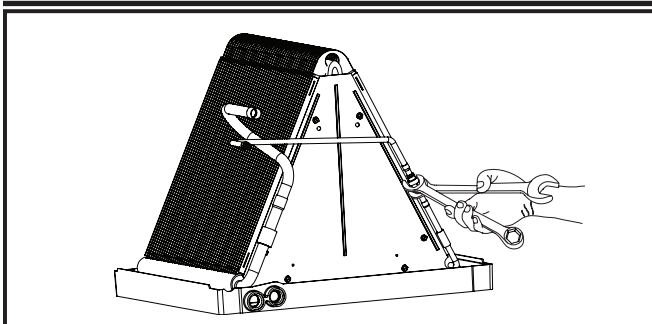

Figure 6. Loosening of Nut & Distributor Body
1. Using two wrenches, loosen the nut and distributor body as shown in Figure 6. Turn the assembly nut counter-clockwise until the orifice body halves are separated.